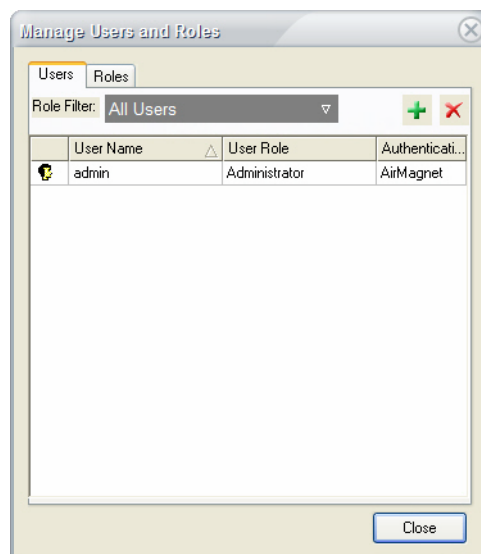

Figure 4-31: Manage Users and Roles dialog box
- 1) Click **Manage>Users & Roles....** The Manage Users and Roles dialog box appears. See Figure 4-31.